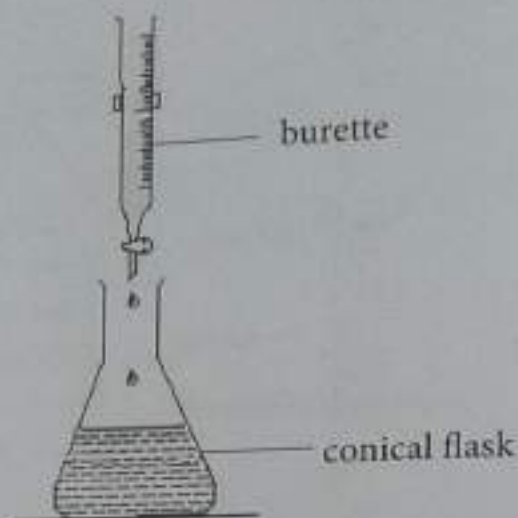

Fig. 4.7 Titration process
- Repeat the titration using the second volume as a guide to the volume required. You can add the acid until you are about 1 cm³ from the end point, then you add the acid drop by drop. Fig. 4.7. illustrate these steps.